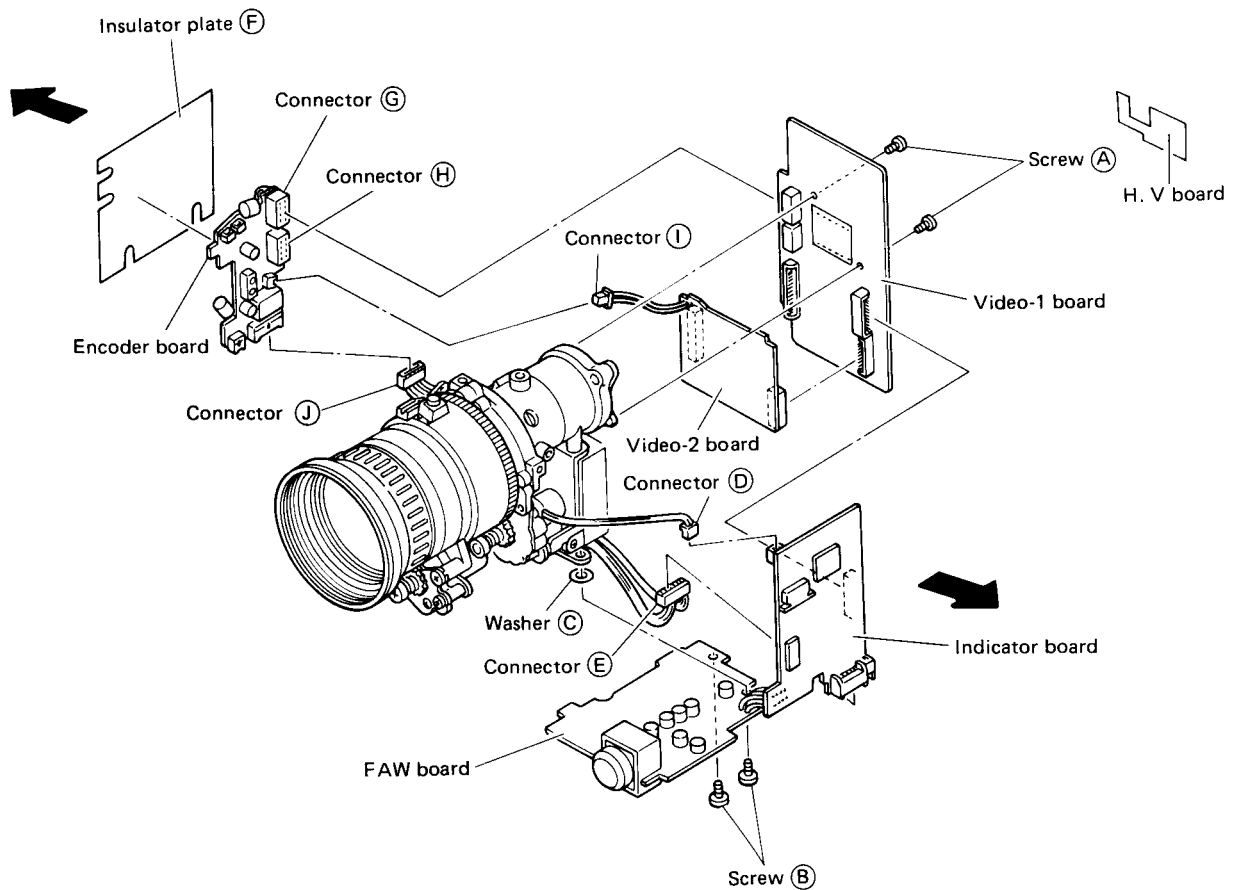

Fig. 1-2-2
1. See Fig. 1-2-2.
2. Carefully draw out the connector (D) of the IND board since it is directly connected with the VIDEO boards. Next, disconnect the connector (E) to remove the IND board.
3. After removing the insulator (F), disconnect connectors (G) and (H) connected directly with the VIDEO-1 board as shown in Fig. 1-2-2.